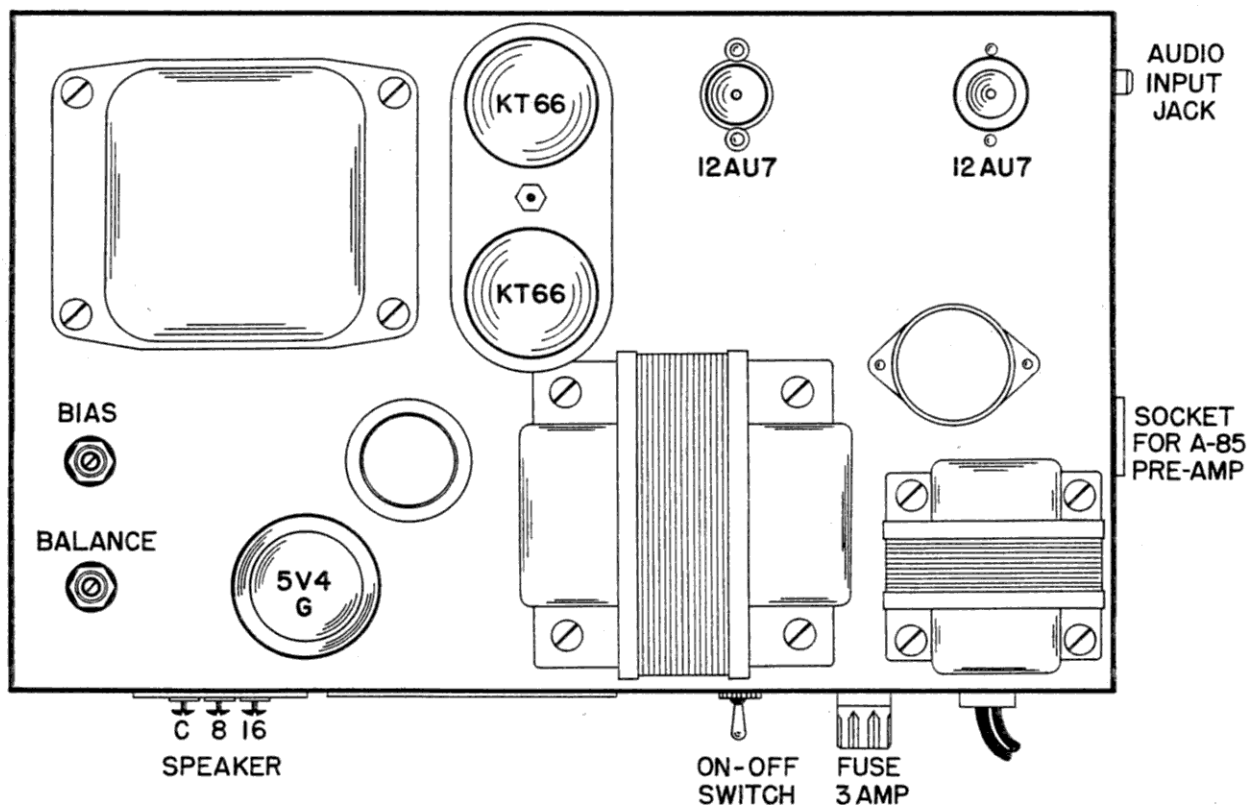

Fig. 1. Top View of Chassis
- a. Disconnect the jumper on the two terminal strip located underneath the chassis. Connect a DC voltmeter between the two terminals on this strip. Adjust the BALANCE control (see Fig. 1) for a zero reading on the voltmeter using the lowest voltmeter scale.
- b. Replace the jumper on the two terminal strip. Connect the positive lead of the DC voltmeter to the jumper and the negative lead to the chassis. Adjust the BIAS control (see Fig. 1) until the meter reads +38 volts.